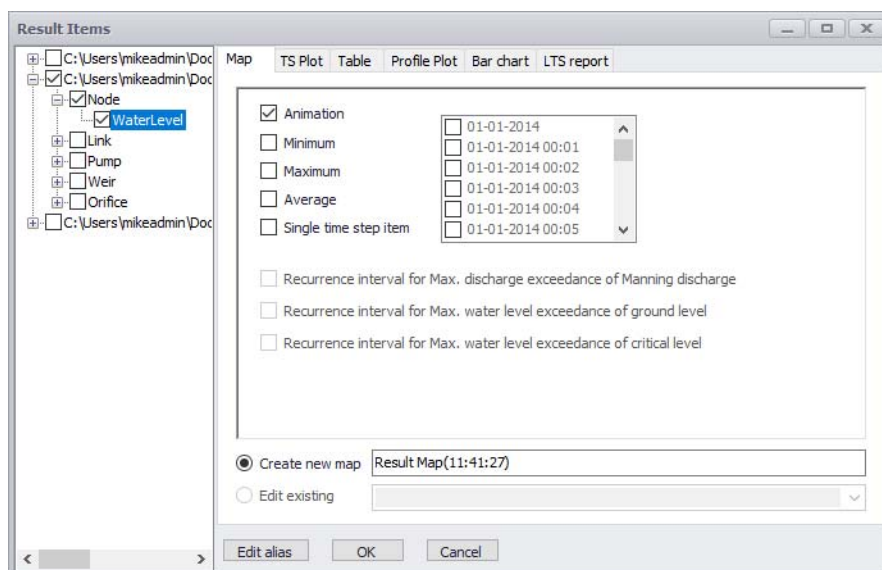

Figure 20.8 The Result Items dialog for creating result presentation documents
- The Result Items dialog appears offering various data presentation options for the result file (Figure 20.8).